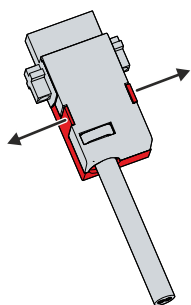

Fig. 19: CP29xx\_Disassembly the strain relief housing
1. Use your fingers to bend the latching lugs on the lower part slightly outwards (see Fig. 19).